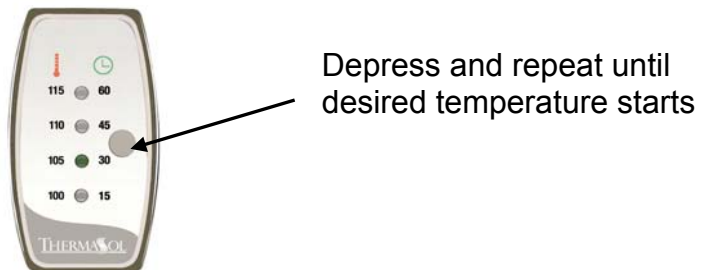

Figure 4
- 3. Changing Session Temperature.** After the time has been selected, the red 100° LED will automatically start flashing. If this is the desired temperature, wait 4 seconds and that temperature will be accepted by the control and the generator will start. If a different temperature is desired, momentarily press the “Control Button”. Repeat until the red LED associated with your desired temperature starts flashing. Once the desired temperature is flashing, wait 4 seconds and that temperature will be accepted by the control and the generator will start. (Figure 4)